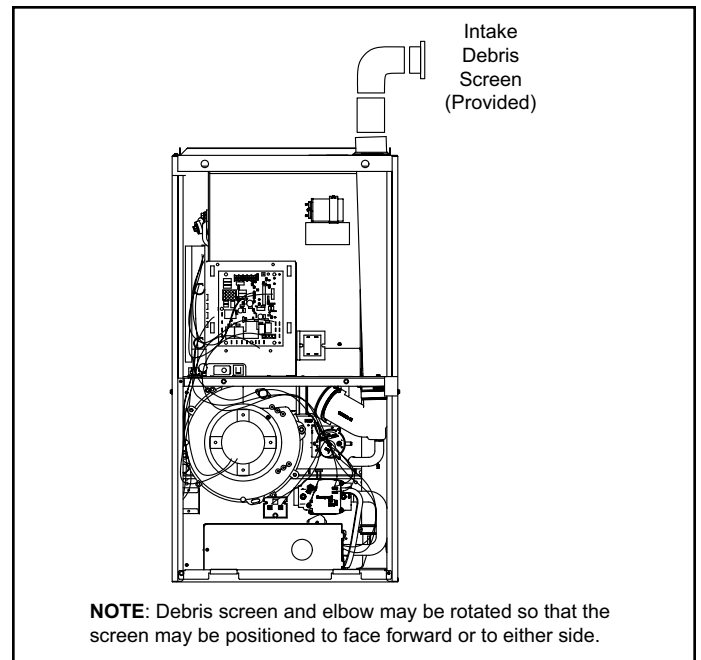

Figure 24. Typical Air Intake Pipe Connections Non-Direct Vent Applications
1. Use field-provided materials and the factory-provided air intake screen to route the intake piping as shown in Figure 24. Maintain a minimum clearance of 3" (76mm) around the air intake opening. The air intake opening (with the protective screen) should always be directed forward, or sideways.